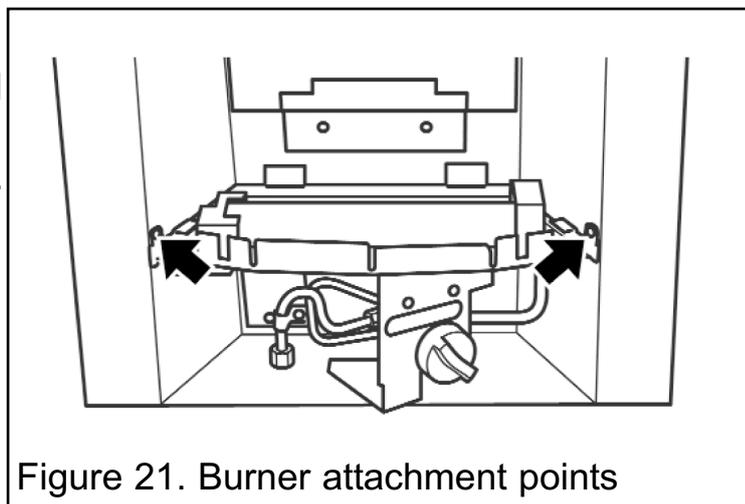

Figure 21. Burner attachment points
4. Detach the burner unit from the convection box by removing two screws (See figure 21).